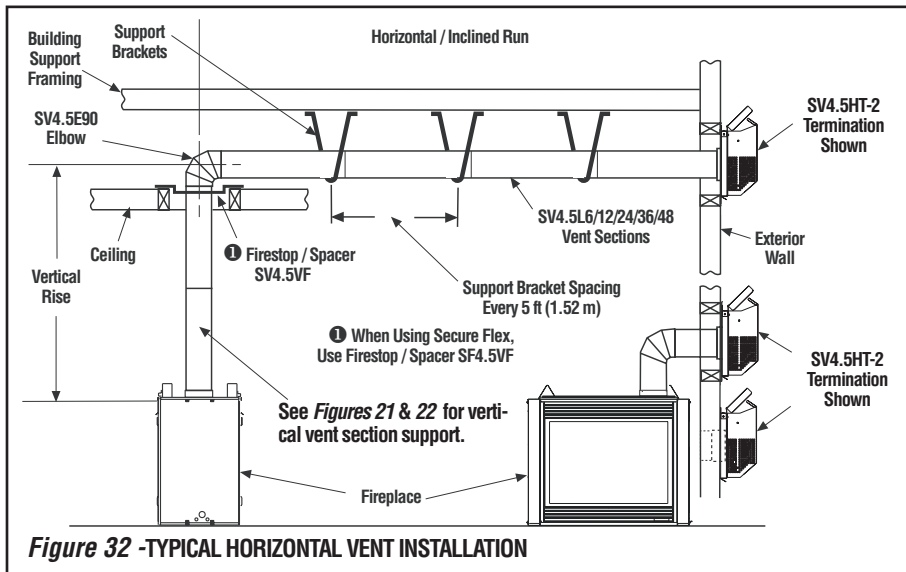
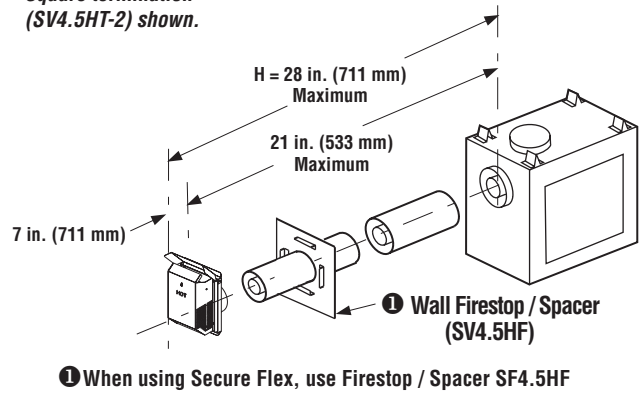

Figure 32 -TYPICAL HORIZONTAL VENT INSTALLATION
Figure 35 - Side Vent, NO ELBOWS
G. Continue installation of horizontal / inclined sections - Continue with the installation of the straight vent sections in horizontal / inclined run as described in **Step C**. Install support straps every 5 feet (1.52 m) along horizontal / inclined vent runs using conventional plumber's tape. **See Page 19, Figure 32. It is very important that the horizontal / inclined run be maintained in a straight (no dips) and recommended to be in a slightly elevated plane, in a direction away from the fireplace of 1/4" rise per foot (20 mm per meter) which is ideal, though rise per foot run ratios that are smaller are acceptable all the way down to at or near level.**
See **Figure 32**, and **Figures 35 to 40** and their associated Horizontal Vent Table which illustrates the horizontal venting configurations that are allowed to be used with these appliances. **Secure Vent** pipe applications are shown in these figures; **Secure Flex** pipe may also be used (see **Page 24**). A Horizontal Vent Table summarizes each system's minimum and maximum vertical and horizontal length values that can be used to design and install the vent components in a variety of applications.
I. Continue installation of horizontal / inclined sections - Continue with the installation of the straight vent sections in horizontal / inclined run as described in **Step E**. Install support straps every 5 ft. (1.52 m) along horizontal / inclined vent runs using conventional plumber's tape. See **Figure 32**. **It is very important that the horizontal / inclined run be maintained in a straight (no dips) and recommended to be in a slightly elevated plane, in a direction away from the fireplace of 1/4" rise per foot (20 mm per meter) which is ideal, though rise per foot run ratios that are smaller are acceptable all the way down to at or near level. Use a carpenter's level to measure from a constant surface and adjust the support straps as necessary.**